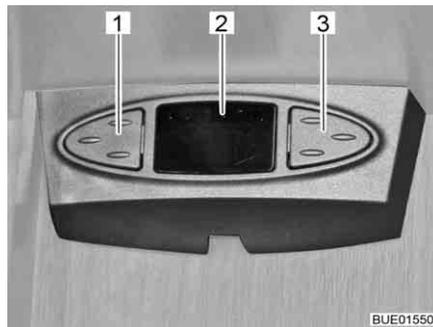

Fig. 23 Satellite mouse
Depending on the model, the satellite receiver is equipped with a satellite mouse. The satellite mouse's display (Fig. 23,2) shows the current channel. The two buttons can be used to operate the basic functions of the satellite unit (changing channel, switching on/off).
- Choosing the previous channel from the list: Press left button (Fig. 23,1).
- Choosing the next channel from the list: Press right button (Fig. 23,3).
- Switching between radio and TV: Press the buttons (Fig. 23,1 and Fig. 23,3) briefly at the same time.
- Switching the receiver on/off: Press and hold the buttons (Fig. 23,1 and Fig. 23,3) at the same time.